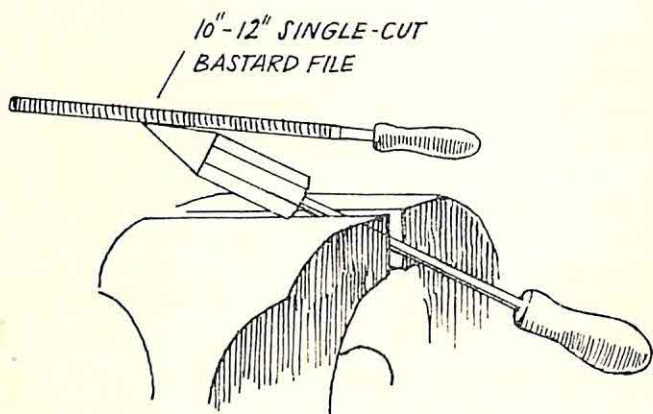

Figure 68
2. File the tip with a single-cut bastard file. For this purpose it may be clamped in a vice (see Figure 68).